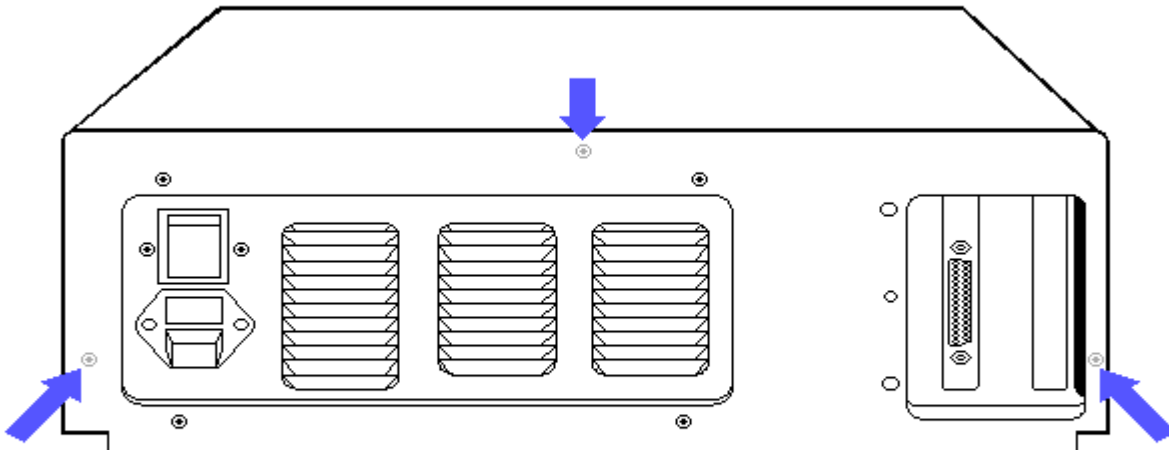

Figure 8-106. Removing the Retaining Screws
6. Remove the retaining screws from the rear of the unit (Figure 8-106).